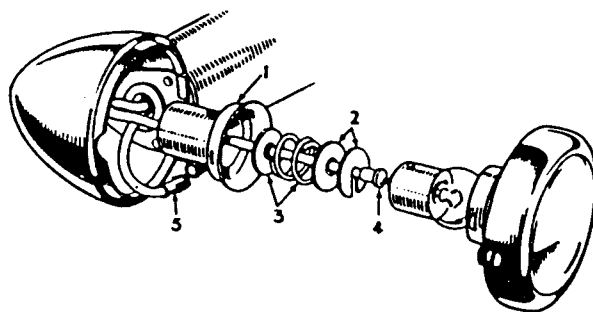

FIG. 8.
- (3) Neatly position cables behind welded clips on the inside of side lamp brackets and connect up to side lamps as follows, with reference to Fig. 8. Remove front rim and reflector from lamp by slackening securing screw, and thread the two cables up the stem of the side lamp. Remove the bulb holder (1) by twisting to the left; remove bulb and the two thin insulating washers (2). Thread the red cable through the washer and spring (3) in the bulb holder, then fit the washer (round hole) over cable and secure in this position by sliding the washer (slotted hole) underneath the cable nipple (4) afterwards pulling cable back into bulb holder. The black earth lead must be fitted to the sleeve connector (5) on side of bulb holder. Thread the sleeve connector on to the cable, which should be bared approx.  $\frac{3}{8}$ " (10 mm.) and push the connector home until all the bared portion of the cable protrudes through the holes in the top of the connector. Bend back the strands evenly around the sides of the connector and then push connector into holder. Finally refit bulb, bulb holder and front rim.